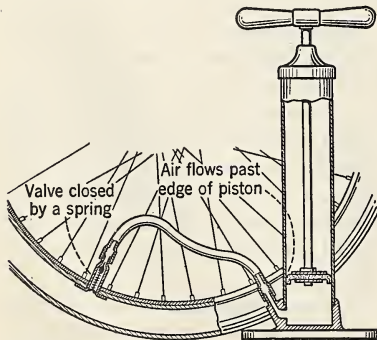

FIG. 89. A simple compression pump used to inflate a pneumatic tire.
79. How does the compression pump work? The bicycle pump, or automobile tire pump, furnishes a common example of compression pump. Such pumps are used to push or crowd more air into a container. In one of the simple types, shown in Fig. 89, a leather disc attached to the piston permits the air to flow past it in one direction, but not in the other. Hence it takes the place of a valve in the piston. The other valve may be placed in the outlet tube; with pneumatic tires a valve is placed in the valve stem of the tire itself.